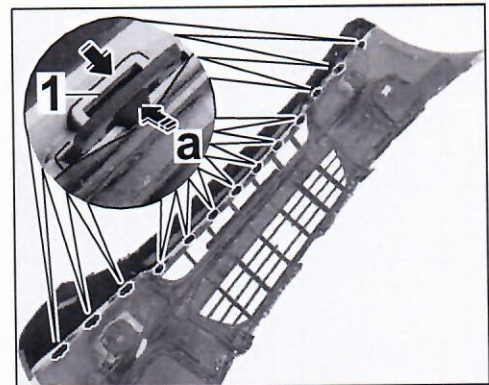

Figure 5
1.3.3 Press down locking lugs (⇒ *Figure 5 -arrow a-*) and guide front spoiler out of the front apron (⇒ *Figure 5*).